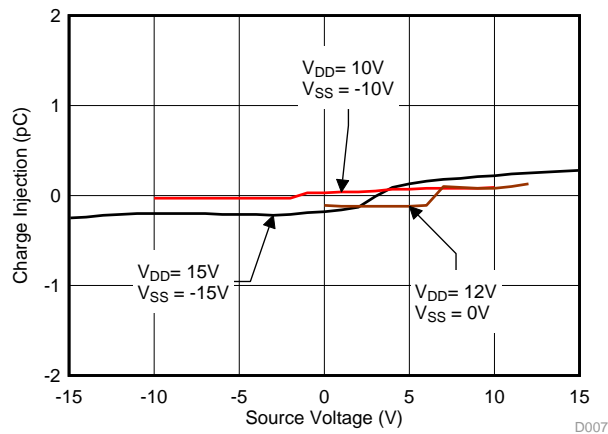

Figure 32. Charge Injection vs Source Voltage
The TMUX6119 utilizes special charge-injection cancellation circuitry that reduces the source (SA or SB)-to-drain (D) charge injection to as low as 0.19 pC at  $V_S = 0$  V, as shown in Figure 32.